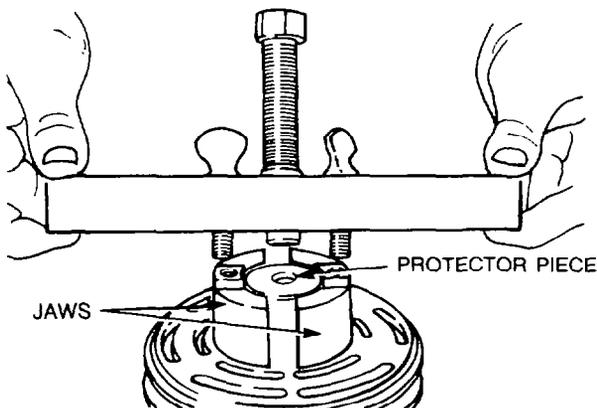

Figure 21 — Rotor Pulley Tool — Installation
- e. Using the jaws from special tool set 32418 insert the lugs into the internal circlip groove, then position the protector piece (also part of special tool set 32418) over the shaft (see Fig. 21).